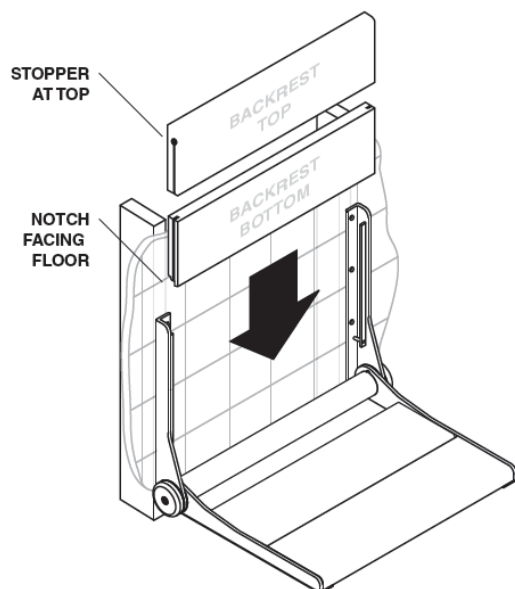

Figure 1.
A1. Identify the horizontal and vertical location of the ThermaSol™ Shower Seat. Specifically, identify the location of the top hole on one side of the wall bracket as shown in of Figure 1 (a).
A5. Once attached, use level as shown in Figure 1 (b) to ensure seat is straight. Identify the location of the top hole on the opposite wall bracket. IMPORTANT: Ensure distance between the wall brackets allows for easy sliding of the back rest panels (do not cause brackets to bend inwards).
1. Choose optimal mounting location of seat including height (*H) and side to side location (L) as shown in Figure 1. NOTE: If accessing the bathroom wall from the backside, transfer the measurements for the support rail location to the backside wall as shown in Figure 1b. Mark the height and location on the wall for future reference.
2. Find wall support studs & cut hole in wall board to expose wall studs as shown in Figure 1. Suggested hole size is height (A) of 18-24" (48-61cm) and width (B) corresponding to wall stud spacing. Expose half width of each stud to facilitate re-installation of wall board patch. IMPORTANT: Avoid any utilities located in wall!